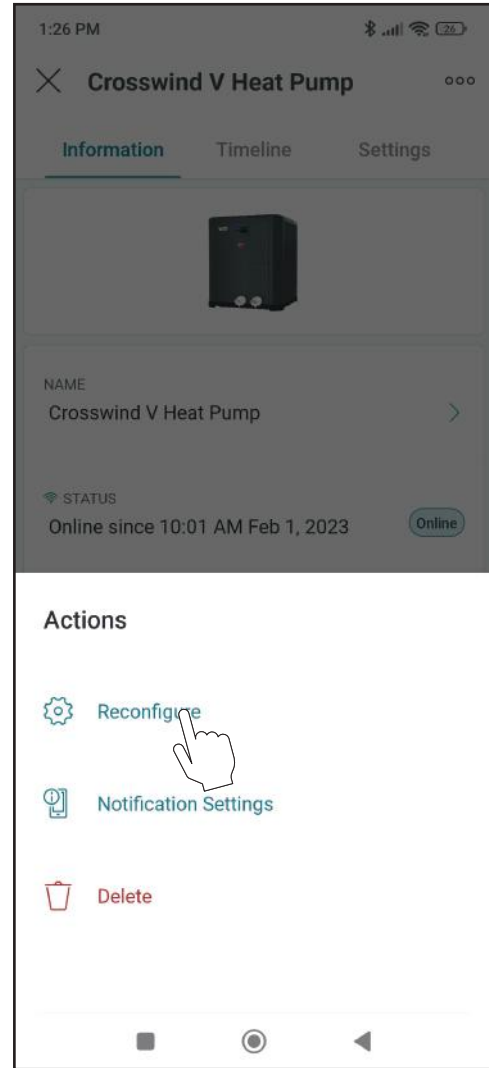

Figure 97. Select Reconfigure
3. Click in the 3-dots icon again. The action menu is displayed. In “Actions” menu, select the option “Reconfigure” as shown in Figure 97.